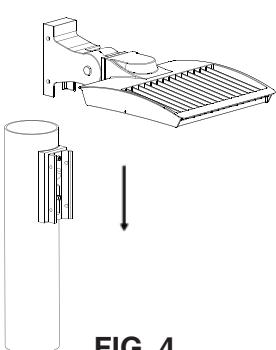

FIG. 4
2. Insert the fixture onto the adapter (see FIG. 4).